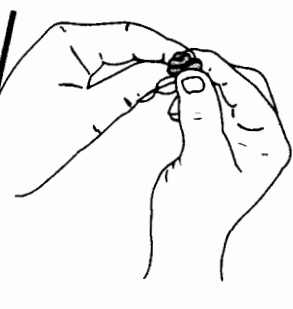

Fig. 40
5. Squeeze the filter to spread and remove excess oil (Fig. 40).